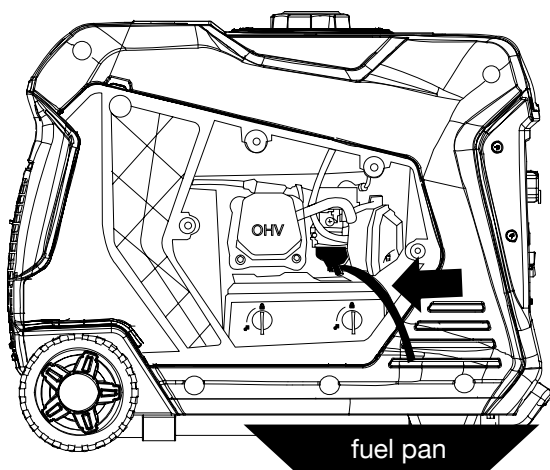

Figure 14: Fuel drain hose
2. Locate the clear plastic hose from the float that is extending towards the bottom of the inverter, pull those hose outside the body and place a suitable container under it to catch the drained fuel (see Figure 14).